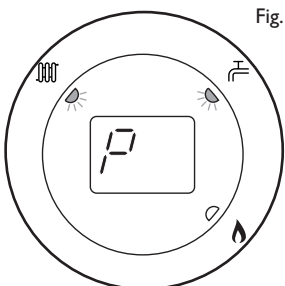
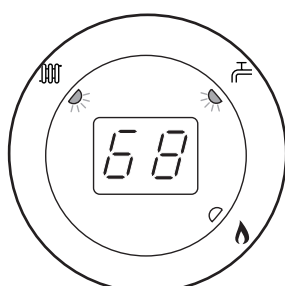

Fig. 57
Fig. 58
5. Turn CH temperature control knob fully clockwise. As the knob is turned the display will change from '0' to '00' (Fig. 58) indicating maximum rate, then revert to 'P' alternating with the current boiler temperature (Figs 57 & 58).